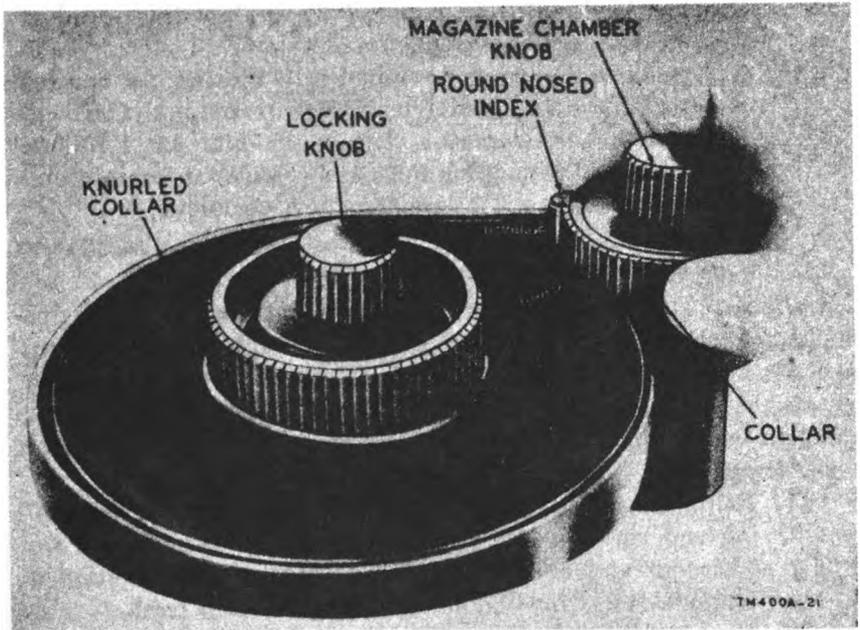

Figure 21. Cutting film after loading.
- (6) To cut the film and make the developing chamber lighttight, turn the knurled collar and the round-nosed index (fig. 21) clockwise with a firm, rapid action to move the index pointer from LOAD to DEVELOP. Do not hold the magazine chamber knob.
- (7) Rotate the knurled collar (fig. 21) counterclockwise 1 full turn to draw the end of the film into the reel. Rotate the magazine chamber knob (fig. 9) clockwise 1 complete turn, and lift the empty magazine from the chamber.
- (1) Refill the tank with 16 ounces of fixer solution after developing and rinsing. Agitate for the first 30 seconds and for 5 seconds at 2-minute intervals thereafter until fixation is complete. Fix for 10 minutes if the solution is fresh.
- (2) Pour out the fixer; it may be saved and re-used four or five times if it is stored in a capped bottle.
g. Washing. Turn the knurled collar of the film magazine (fig. 21) to the LOAD position, and place the opening of the magazine chamber under a water faucet. Allow a slow, steady stream of water to flow into the tank for 1 hour. For faster washing or when water is scarce, remove the cover assembly and place the tank in a bucket or deep tray. Wash for 5 minutes each in six changes of water.
h. Drying (fig. 22). To dry the film, fasten the end, while it is still on the reel, to a film clip suspended from the ceiling or from a shelf. Depress the locking knob (fig. 21) to allow free rotation of the reel and pull the reel downward until the film is unwound. Release the film from the reel and place a second clip on the lower end for weight.
j. Cutting Film (fig. 21).